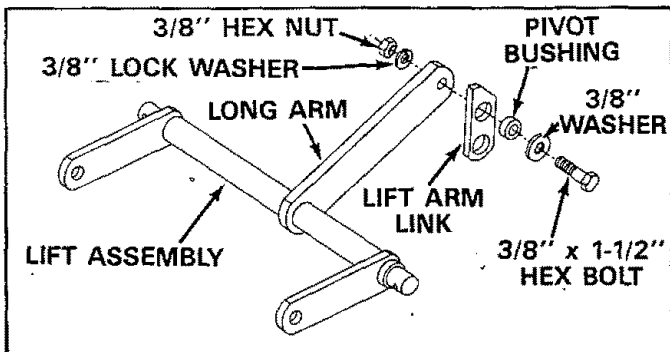

FIGURE 15
8. Pre-assemble front lift arm link to long arm on lift assembly as shown in figure 15. Assemble one 3/8" x 1-1/2" hex bolt through one 3/8" flat washer, through pivot bushing and through large hole in lift arm link near angle end. Secure with one 3/8" lock washer and one 3/8" hex nut. See figure 15. **NOTE:** Lift arm link must pivot freely.